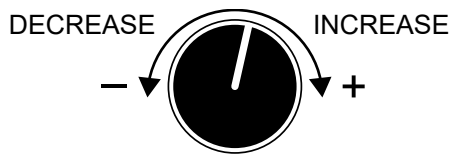

Figure 54. Voltage Regulator
7. If the voltage is not within the specified tolerance, use the **voltage regulator** (Figure 54) to increase or decrease the desired voltage.